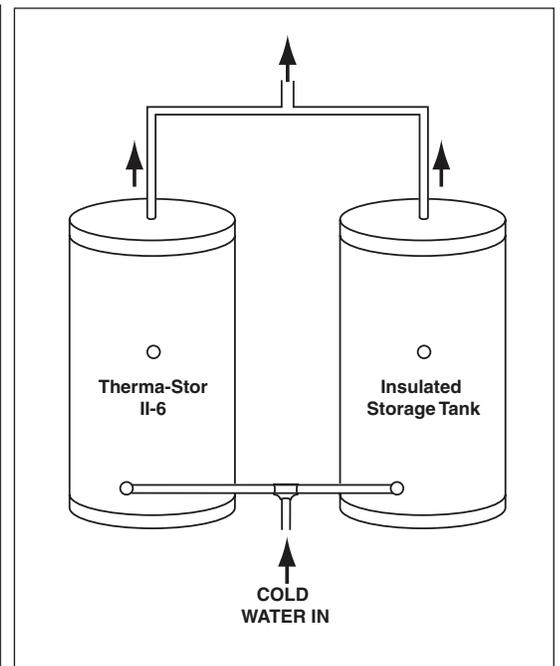

Figure 2: Plumbing the II-6 with an optional storage tank.
4. If additional water storage is desired an insulated storage tank may be installed. This tank should be set beside the Therma-Stor II-6. Connect the inlet and outlet together with no check valves. See Figure 2.